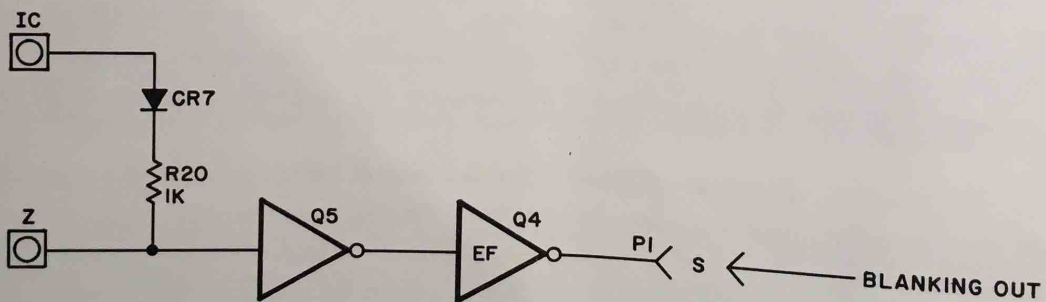

Figure 3.7. Blanking Circuit
3.4.3.3 *Blanking Circuit.* The blanking circuit consisting of an inverter, Q5, and an emitter-follower, Q6, is used to blank the Rep-Op Scope when the IC or the Z patch terminals go high. Refer to Figure 3.7 and Schematic D00 012 1616 0S for the following description.